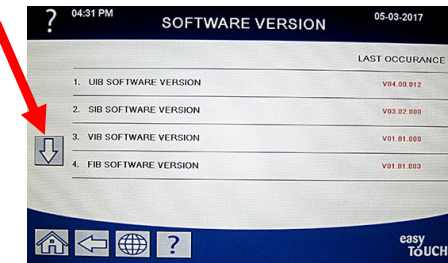

Figure 40
- Press the down arrow button **TWO** (2) times (see Figure 40).